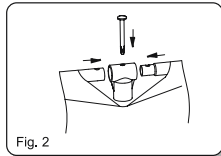
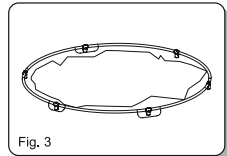

Fig. 2
Fig. 3
4. Insert both ends of Top Rails into the Connector. Then insert Bolt into the top of the Connector. (Fig.2) Repeat this procedure for remaining parts. (Fig.3)